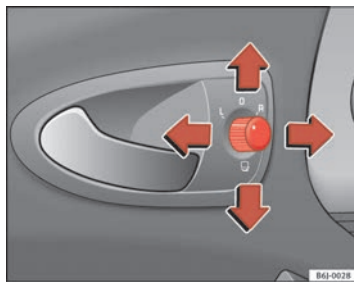

Fig. 64 Wing mirror controls
1. Turn knob ⇒ fig. 64 to position **L** (left exterior mirror).
- Turn the control ⇒ page 98, fig. 64 to position  to fold in the wing mirrors. You should always fold in the wing mirrors if you are driving through an automatic car wash. This will help prevent damage.